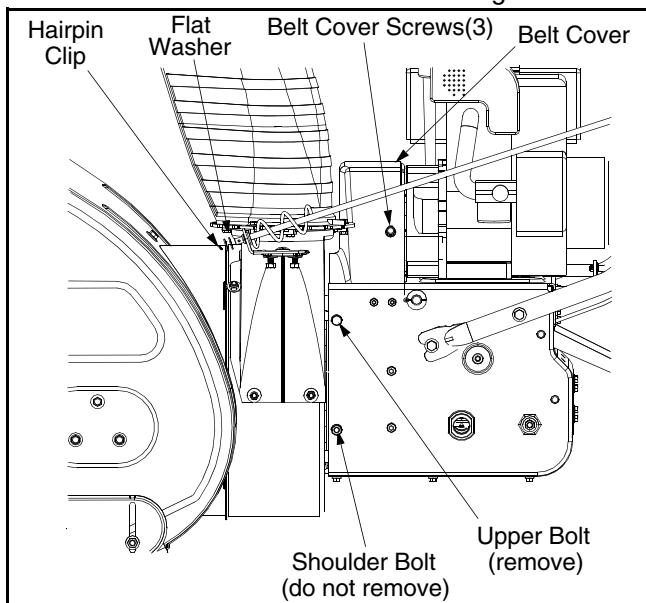

Figure 18
- Disconnect the chute directional control at the chute assembly base by removing the hairpin clip and the flat washer. See Figure 18.
- Remove the plastic belt cover, located near the engine, by removing the three self-tapping screws and flat washers that secure it. See Figure 18.
- Remove the upper bolts and lock washers which secure the auger housing assembly to the frame assembly using a 9/16" wrench. See Figure 18.
- Secure the two halves with the two bolts and lock washers removed earlier. Refer to Figure 18.